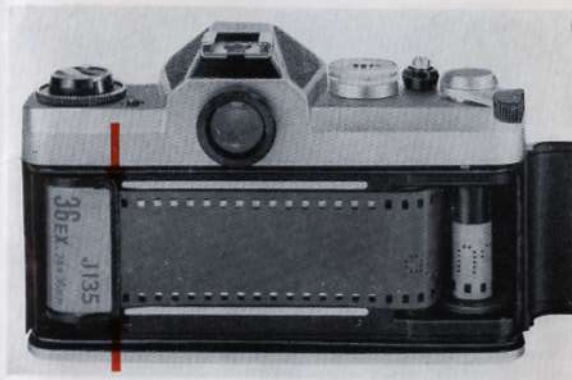

Fig. 10
- (3) Insert end of film into slot in take-up spool and engage perforation of film with tooth in spool slot. Place thumb lightly over film on bottom sprocket wheel and operate film advance lever until upper sprocket wheel engages film perforations. When advance lever stops, free it by depressing shutter release on top of camera. Make sure that film lies flat between guide rails (Fig. 10). Close camera back firmly.